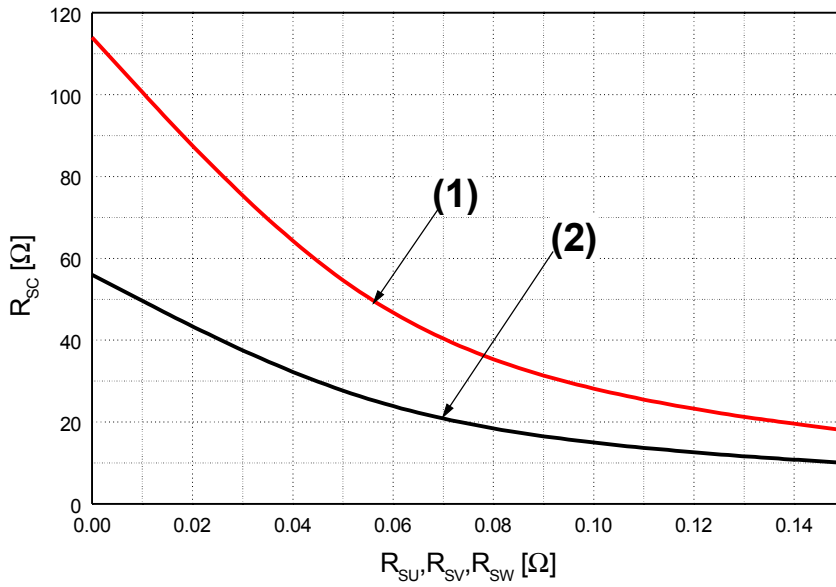

Fig. 7. R_{SC} Variation by change of Shunt Resistors (R_{SU}, R_{SV}, R_{SW}) for Short-Circuit Protection
- Short-circuit current protection is functioning only at the low-sides. It would be recommended that the value of the external sensing resistor (R_{SC}) should be selected around 56 Ω in order to make the SC trip-level of about 15A at the shunt resistors (R_{SU}, R_{SV}, R_{SW}) of 0Ω. For the detailed information about the relationship between the external sensing resistor (R_{SC}) and the shunt resistors (R_{SU}, R_{SV}, R_{SW}), please see Fig. 7.